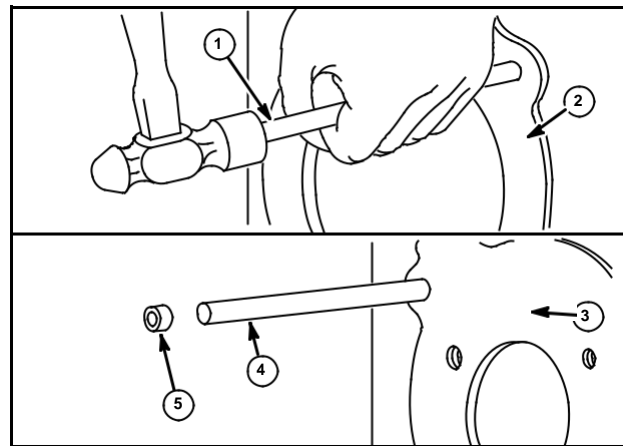

Fig. 3
1. Use a long, blunt punch (1) to drive the cam gear shaft (4) and plug (5) out from the PTO side (2) toward the flywheel side (3), Fig. 3. Do not burr or peen end of shaft while driving out.